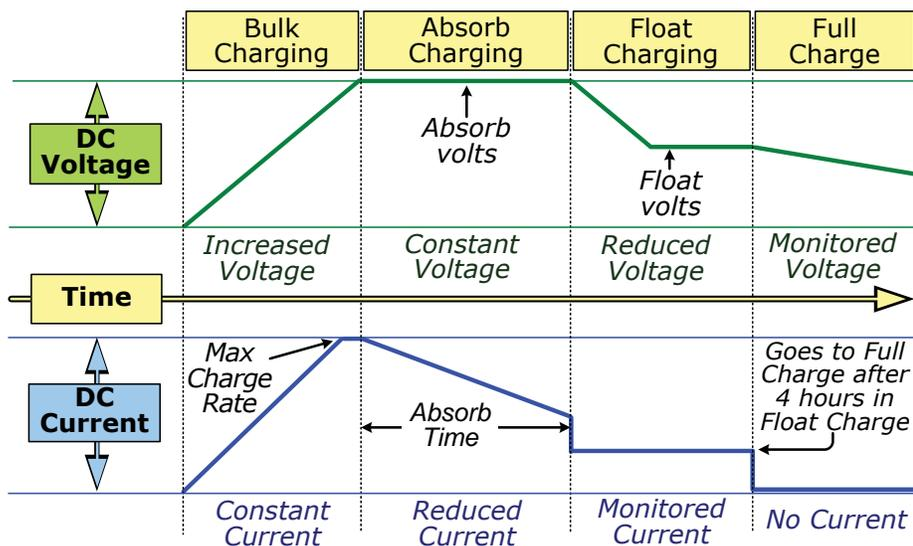

Figure 3-3, Automatic 4-Stage Charging Graph
The multi-stage charger in the ME-G Series can use up to five different charging stages to help monitor and keep the batteries healthy. The five stages include an automatic 4-stage charging process (Figure 3-3)—Bulk, Absorb, Float, and Full Charge—and a manual Equalization (EQ) charge stage. The automatic 4-stage charge process provides complete recharging and monitoring of the batteries without damage due to overcharging. The EQ stage (requires a remote control to enable) can be used to stir up stratified electrolyte and to reverse any battery plate sulfation that may have occurred—if recommended by your battery’s manufacturer.
While charging, the unit may go into charger back-off protection, which automatically reduces the charge current to the batteries. This is caused by: 1) The internal temperature is too hot—the charger automatically reduces the charge rate to maintain temperature; or, 2) The AC input voltage falls below 90 VAC—the charger stops charging to help stabilize the incoming AC voltage. The Charge mode provides up to four separate charging stages: Bulk Charging, Absorb Charging, Float Charging, and Full Charge (see Figure 3-3).